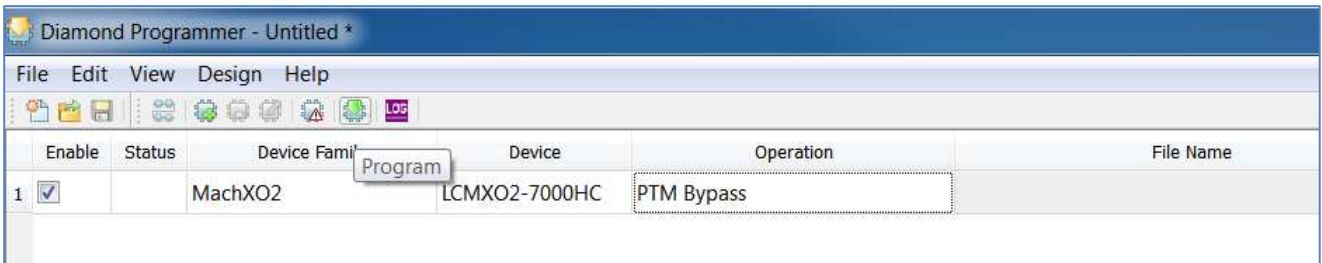

Figure 5.21. ASC Socket – Programming
- Program the ASC device through the MachXO2 device on the Smart Socket board by clicking the **Program** icon  as shown in Figure 5.21.